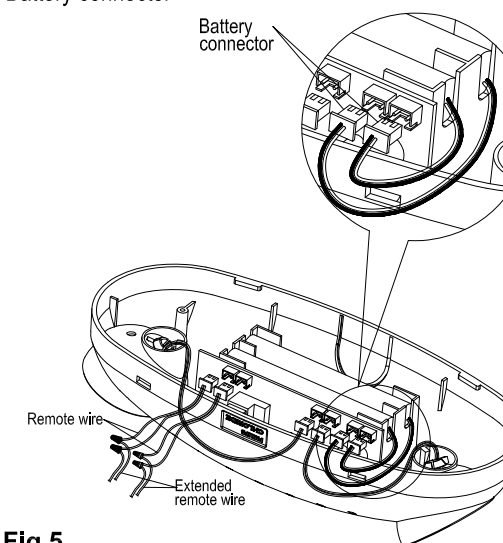

Fig 5
5. Plug battery male connector into female connector on the PCBA (see Fig 5).
Connecting Remote head (option) (see Fig 5)